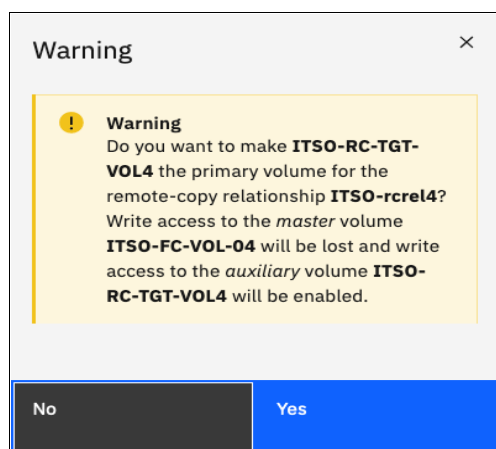

Figure 10-137 Switching master-auxiliary direction of relationships changes the write access
3. Because the master-auxiliary relationship direction is reversed, write access is disabled on the new auxiliary volume (former master volume), whereas it is enabled on the new master volume (former auxiliary volume). A warning message is displayed, as shown in Figure 10-137. Click **Yes**.